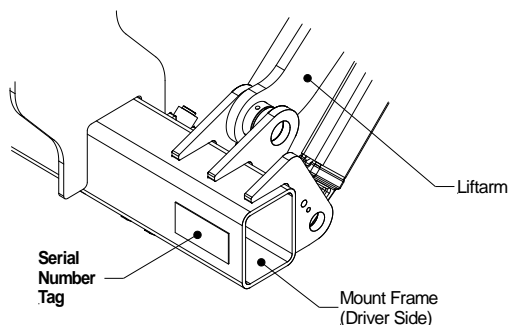

Fig.1
1) Refer to the serial number tag on the liftgate, the tag can be found on the driver side of the mount frame, at approximate location shown, **Fig.1**.